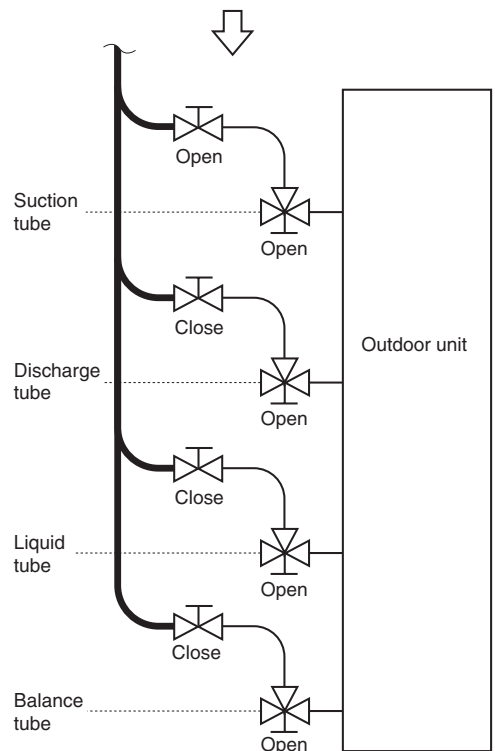

Fig. 8-6
- If the additional refrigerant charge amount cannot be charged at once, charge the remaining refrigerant in liquid form by using the suction tube service valve with the system in Cooling mode at the time of test run. (Fig. 8-6)